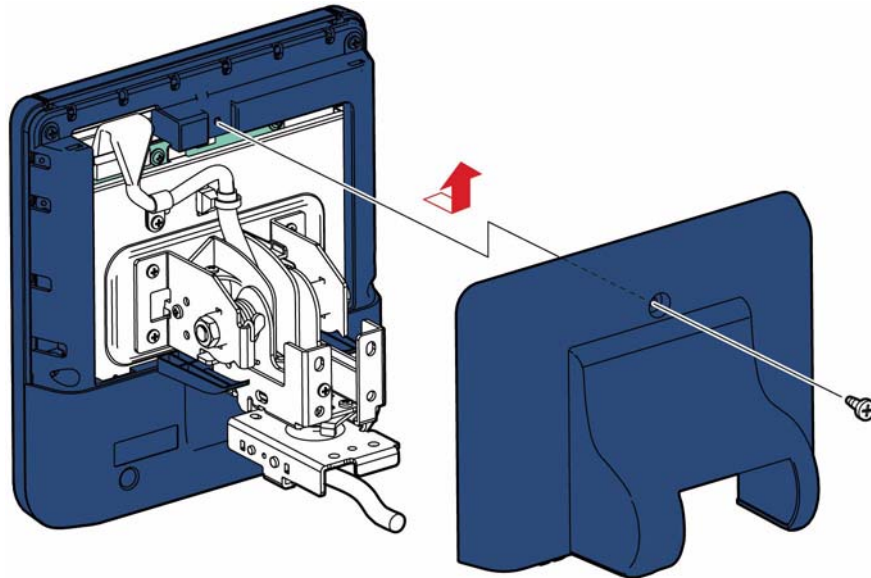

Figure 1 Remove the Upper Rear UI Cover
2. Refer to Figure 1 to locate and remove one screw (silver, tapping, 8 mm) that secures the cover.